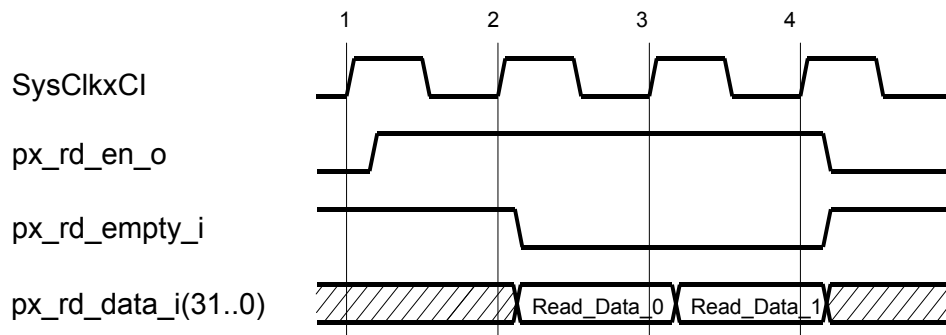

Figure 9: MemoryBus Read Cycle
Figure 9 shows two successive data read cycles being performed on the MemoryBus Read Port. At the rising edge of **SysClkxCi** (1) the Custom Module asserts **px_rd_en_o** to '1' to indicate that it is ready to receive read data from the MCB. The data had previously been requested by a Read Command on the MemoryBus Command Port. Note that the Read Command is not shown in Figure 9. Read data becomes available in the MCB at clock edge (2) when **px_rd_empty_i** is de-asserted to '0' and at the same time the data is presented on **px_rd_data_i(31..0)**. The Custom Module must capture the data whenever it samples **px_rd_en_o** = '1' and **px_rd_empty_i** = '0' which is the case at clock edge (3) and (4).